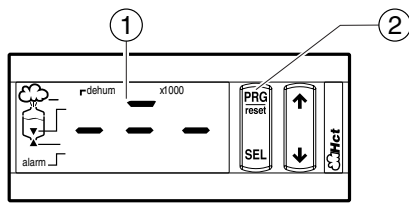

Fig. 8.5.1
- release the PRG button within 3 seconds to confirm the recall and permanent saving of the default parameters; to confirm the saving of the values, the upper dash will stay on for 2 seconds (as displayed in Fig. 8.5.1);